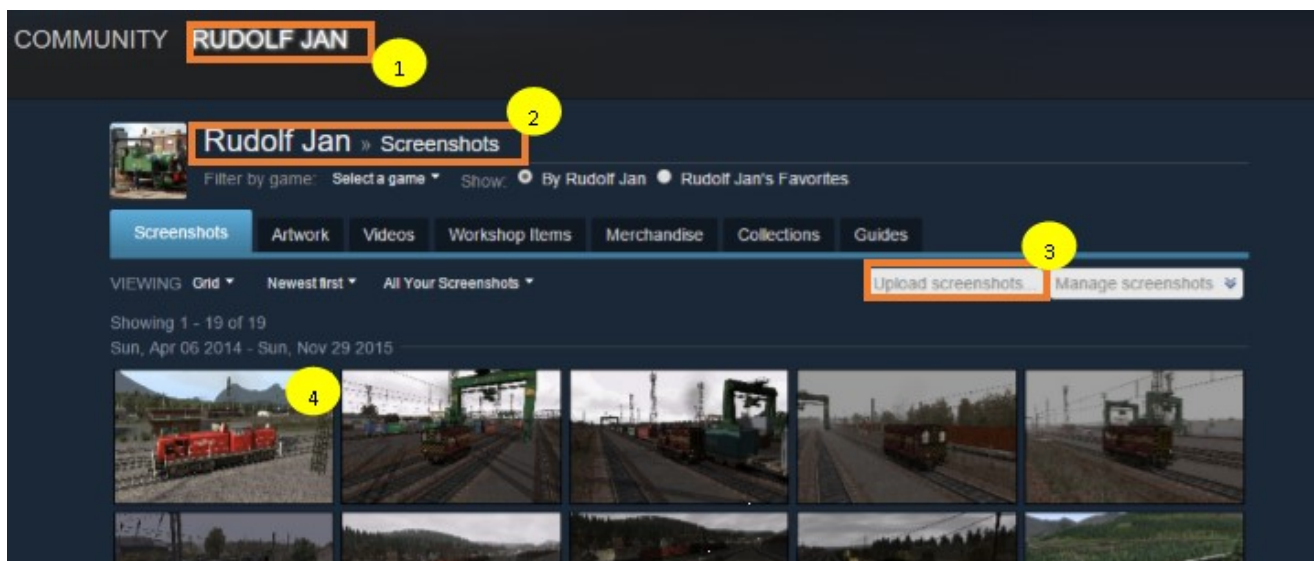

Figure 62. Uploading screenshots to steam.
Now you can upload the screenshots by pressing the “Upload screenshots” button (3). See Figure 62. Then you can start preparing your workshop scenario from Trainsimulator. It all looks a bit clumsy and confusing, but this seems to work.